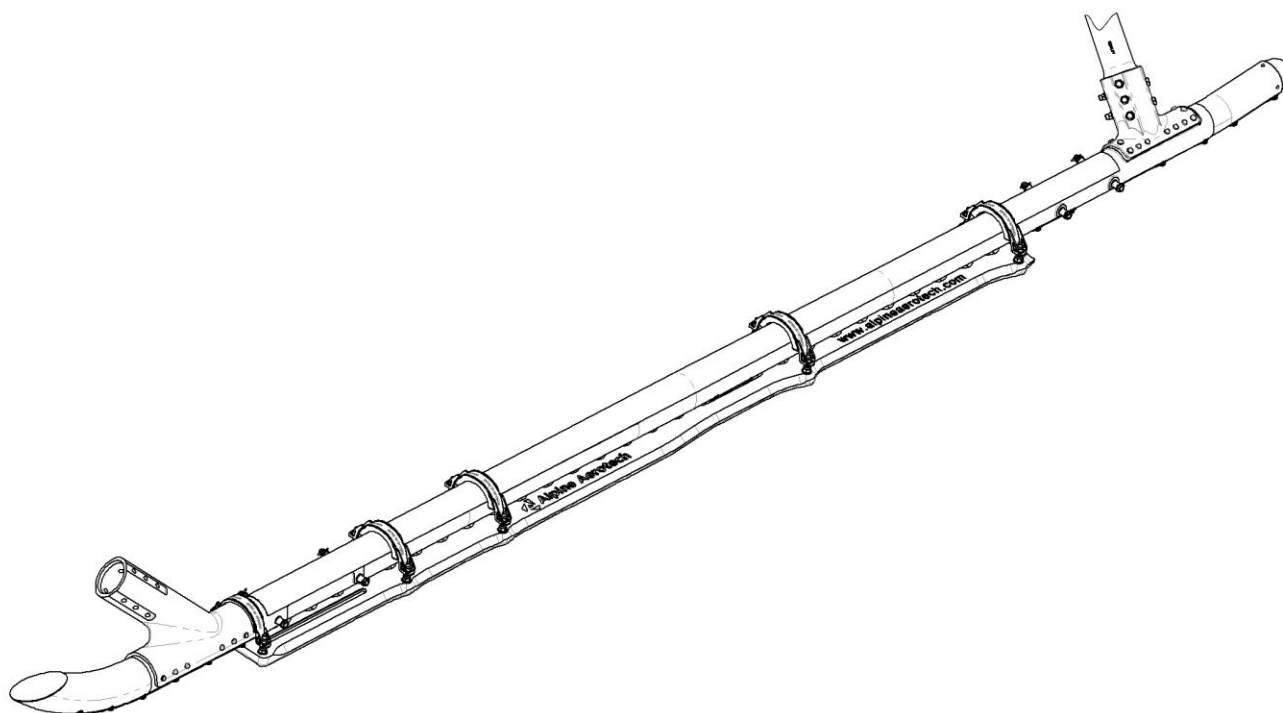

Figure 2
3. Install the Traction Paw, Assy normally as per AAL-490-025-701 Section 3. Reference Figure 2.